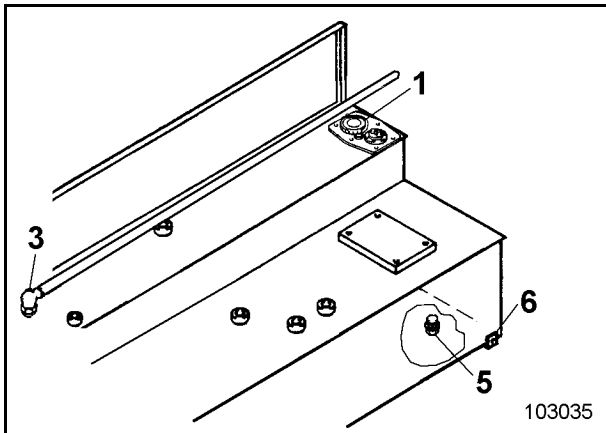

Fig. 2-57:
- ➔ Unscrew cap of filler tube (1, Fig. 2-57:).